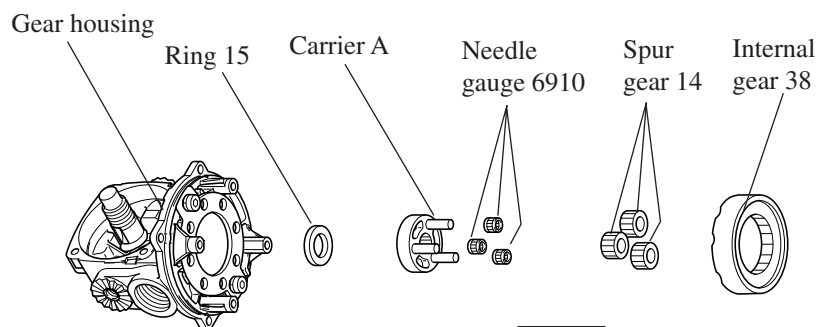

Fig. 15
- ( 3 ) Take off the gear section as per the following order. See Fig. 15.